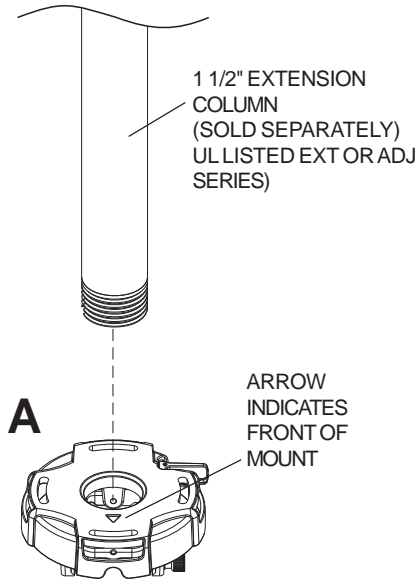

fig. 5.1
Screw projector mount assembly (A) onto extension column as shown in **figure 5.1**.